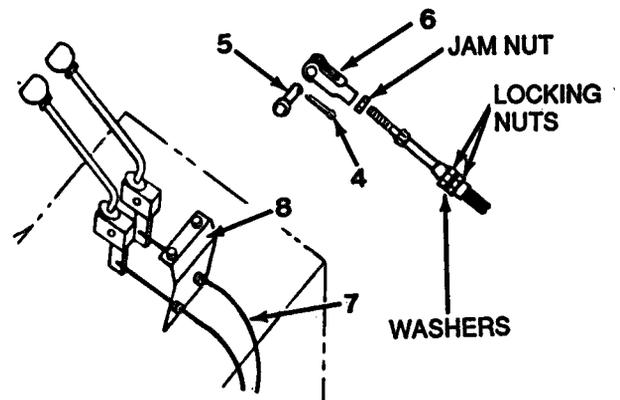

Figure 17-2
2. Install two locking nuts and washers on cable (7, Figure 17-2).
3. Install jam nut and yoke (6) on cable (7).
4. Install yoke (6), pin (5) and cotter pin (4) on lever assembly.